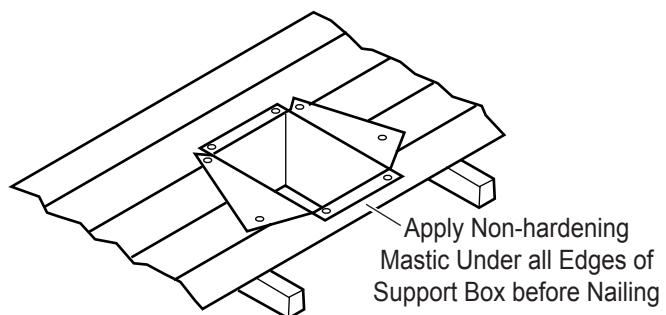

Figure 31 - Installed Cathedral Ceiling Support Box
4. Using tin snips, cut the support box from the top corners down to the roofline and fold the resulting flaps over the roof sheeting. See Figure 31. Apply a bead of non-hardening mastic around the top edges of the support box to make a seal between the box and the roof. Nail in place with roofing nails. Remove any combustible material that might be inside the support box.